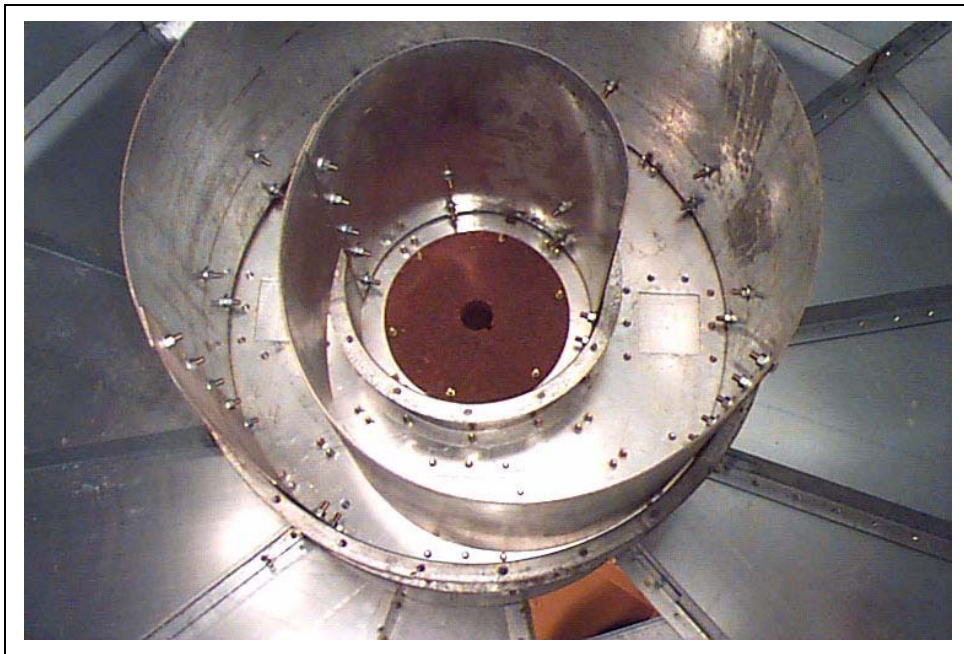
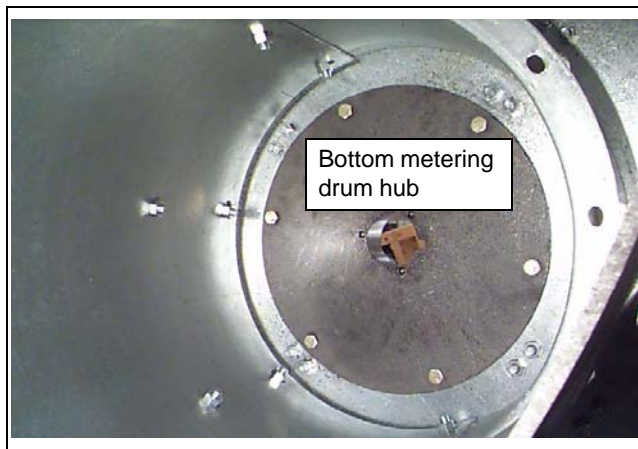

Figure 22N View from below metering drum.
Figure 22O Close Up - Below metering drum.
4. Insert drive shaft weldment up through bottom metering drum hub. Replace top metering drum hub on drive shaft. Secure top and bottom metering drum hubs with Q1 taper bushings. *(See Figure 22N and Figure 22O on Page 234.)*